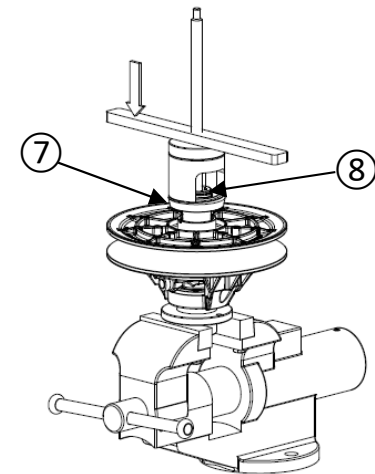
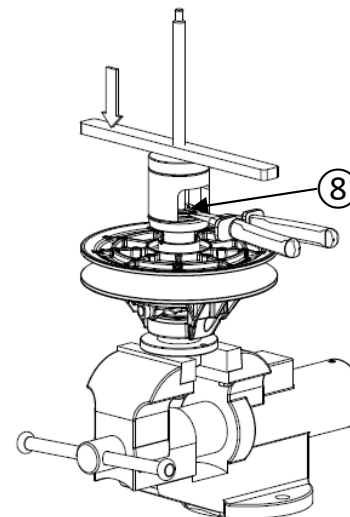

Figure 17
Figure 18
- Install the pulley on the disassembly tool as shown in figure 17.
- By screwing the bar on the threaded rod, press down the spring seat ⑦ (3 to 4 mm max.) in order to free up the external retaining ring ⑧.
- Remove the external retaining ring ⑧ using the snap ring pliers (figure 18).